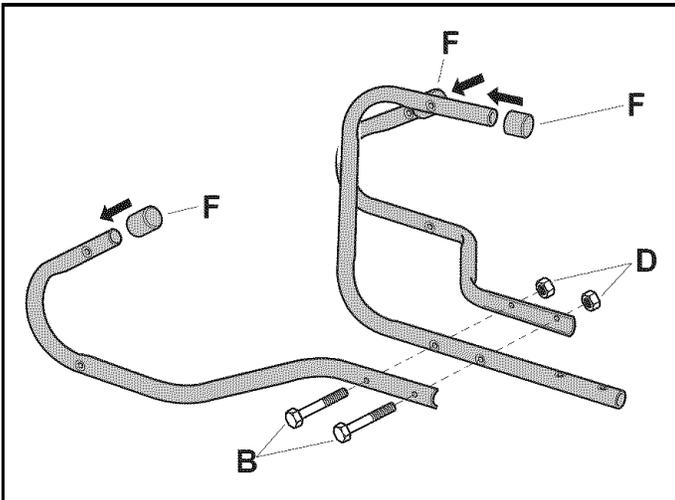

FIGURE 6
- Assemble the (RH) and (LH) hitch tubes to the control tube using two 1/4" x 1-3/4" hex bolts (B) and 1/4" nylock nuts (D). **Tighten.** See figure 6.
- Assemble the plastic caps onto the ends of the hitch tubes and control tube as shown in figure 6.